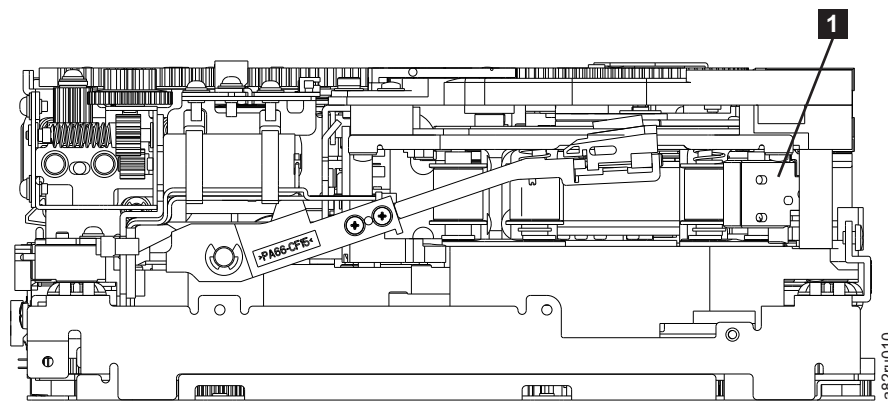

Figure A-4. Leader Block Assembly (LBA)
7. Rotate the threader motor worm gear ( **4** in Figure A-3 on page A-6) to turn the threader mechanism gear ( **6** in Figure A-3 on page A-6) counterclockwise. This moves the LBA out of the cartridge and past the read/write head. Stop this rotation when the LBA is near the tape guide roller nearest the rear of the drive ( **1** in Figure A-4).